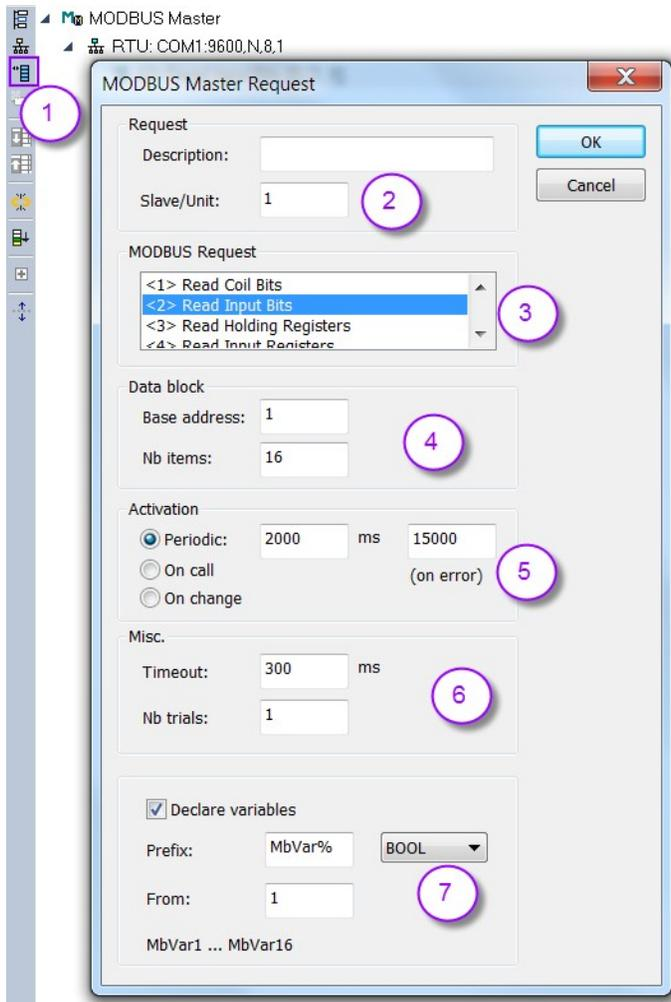

Figure 147: Modbus Master data block setting
Figure 147 creates a input data block which holds 16 input bits and start reading from the slave discrete input table at address 1.
12. **Declare variables:** This option allows the user to declare new variables and automatically map them to the Modbus master data block. Enter a variable name and add the symbol '%' at the end of the name and enter the start number for the '%' symbol. The workbench replace the '%' with a number which increases incrementally for each new variable as indicated at the bottom of the window (Figure 147). The new variables are automatically mapped to the Modbus master data block (Figure 148). Disable this option if variables has already been declared in the variable editor. In this case the variables have to be mapped manually by dragging the variable from the variable editor and dropping it to the mapping area.
Step 4: This step needs only to be done if the 'Declare variable' option (Figure 147) has not been selected. Declare and map variables to the master data block:
Step 5: This step has only to be done if the 'On call' checkbox has been selected (No. 5 in Figure 147). If the master is in the 'On call' mode the Win-GRAF runtime does not automatically sent a request to the slave. The logic program of the PLC has to trigger a request. Two command types are available to initiate a request: